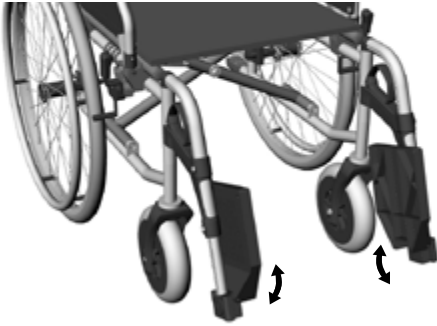

Fig.8
2. Swivel the foot plate upwards. (Fig. 8)